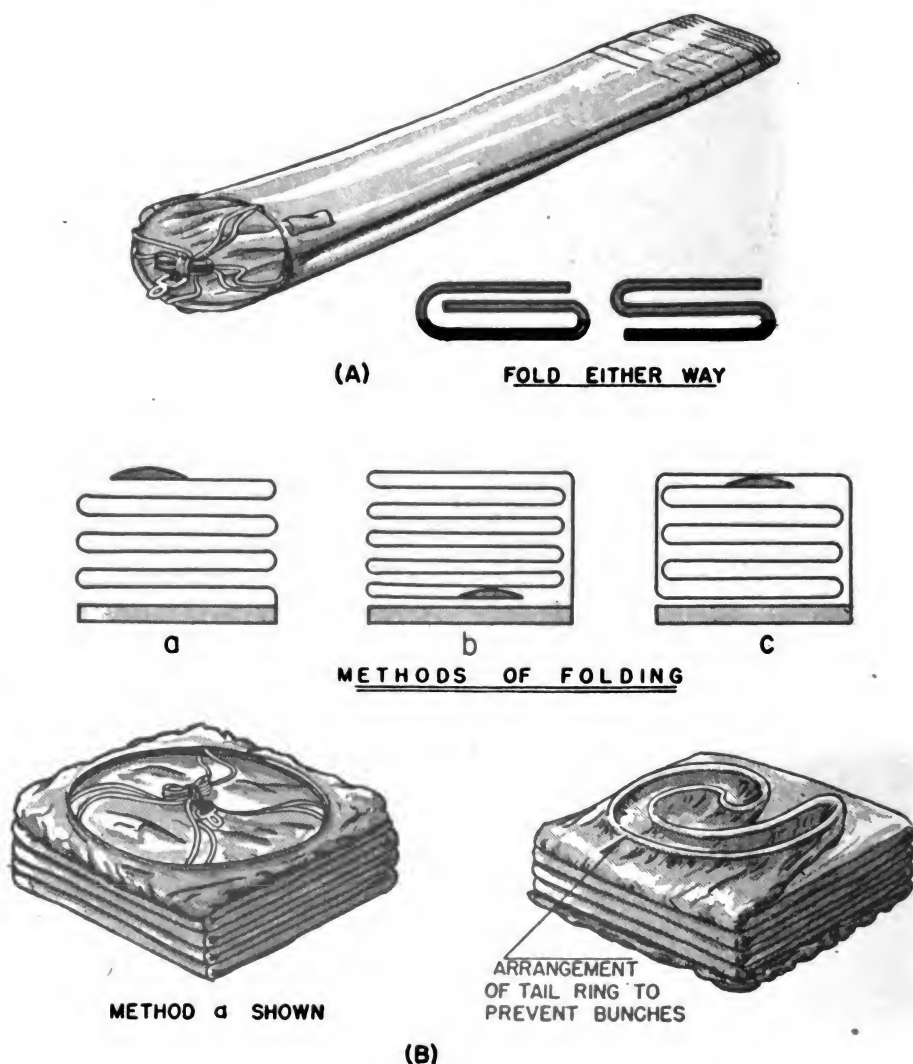

Figure 60.—Loading the tow target container Mark I (continued).
Next you fold the target lengthwise—see figure 60 (A)—then place the bridle ring face down on the deck and fold the sleeve on top of the ring in accordion-like folds (see figure 60). Now attach the end of the towline to the target swivel and take about ten turns of the line around the